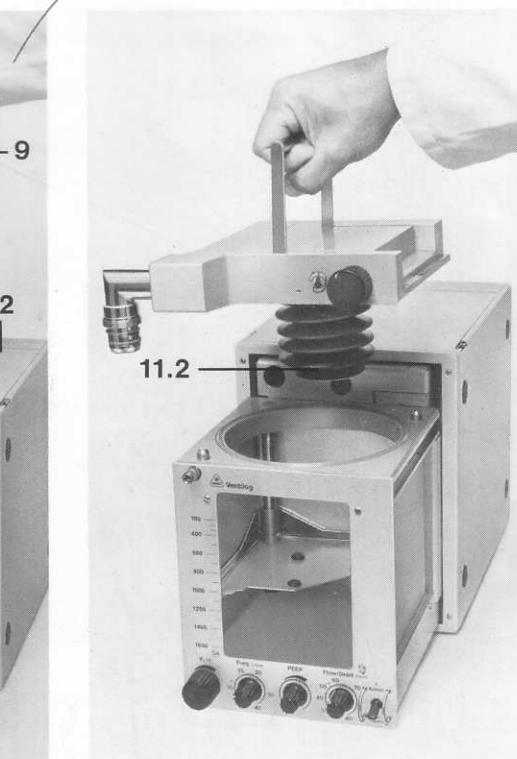

Fig. 4 Ventilog with bellows K
- 11.2 Bellows K for the patient system for childrens' ventilation (Fig. 4)